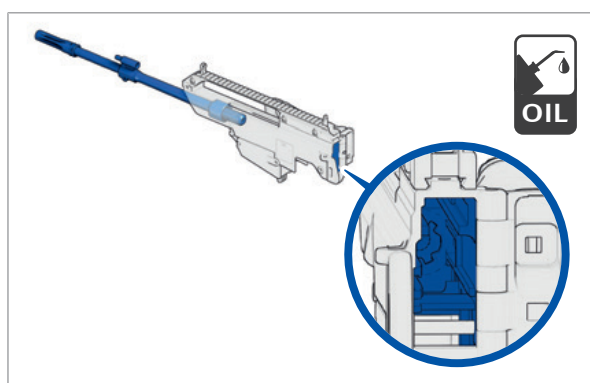

Fig. 119: Lubrication points on receiver
4. Lubricate lubrication points on receiver (Fig. 119).